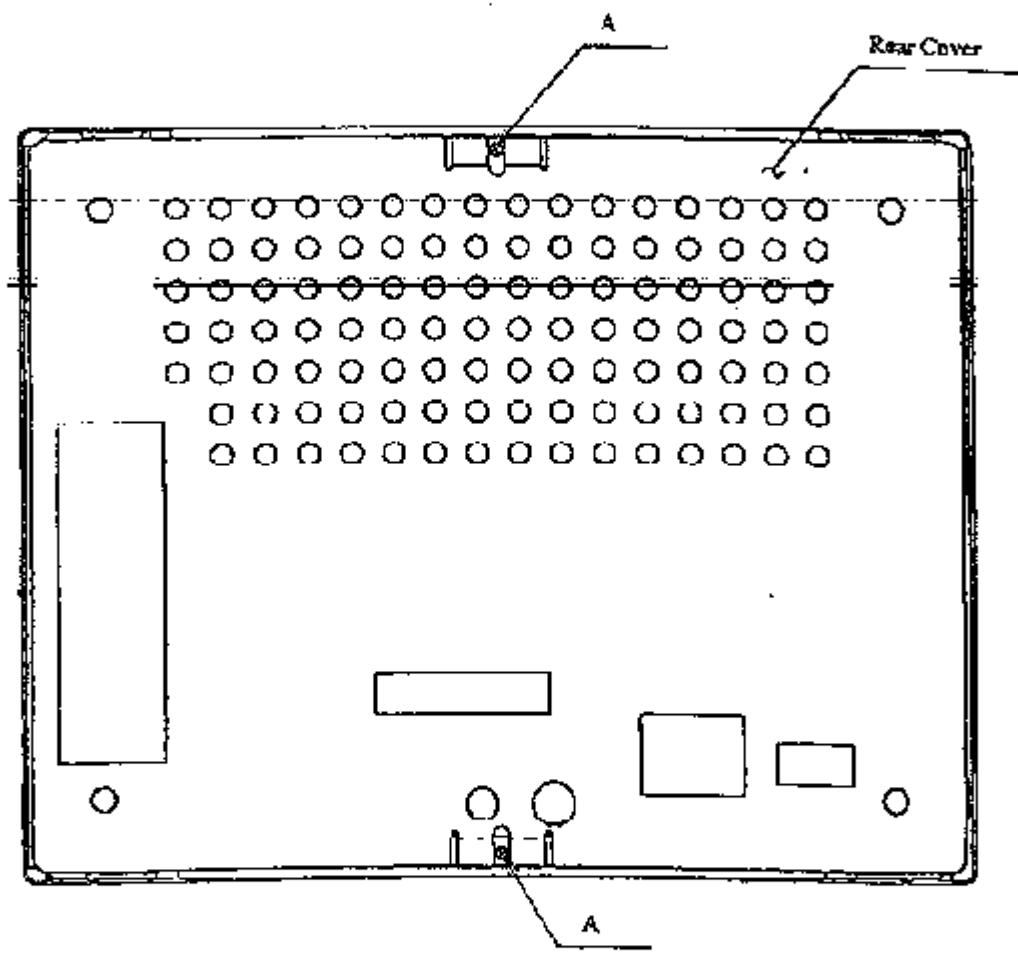

Figure 1.
- (1) Put on the finger stalls and attach the grounding band.
- (2) Turn on the ionizer switch.
- (3) The module should be kept turned off, and wait for a while until the lamp get cool down enough. Then remove from the equipment in which it was installed.
- (4) Place the LCD module display side down on the flat work bench equipped for static charge prevention. Be careful not to scratch the polarizer.
- (5) Remove two Philip screws A in Figure 1 with a Philips screwdriver of the correct size, release the rear cover.